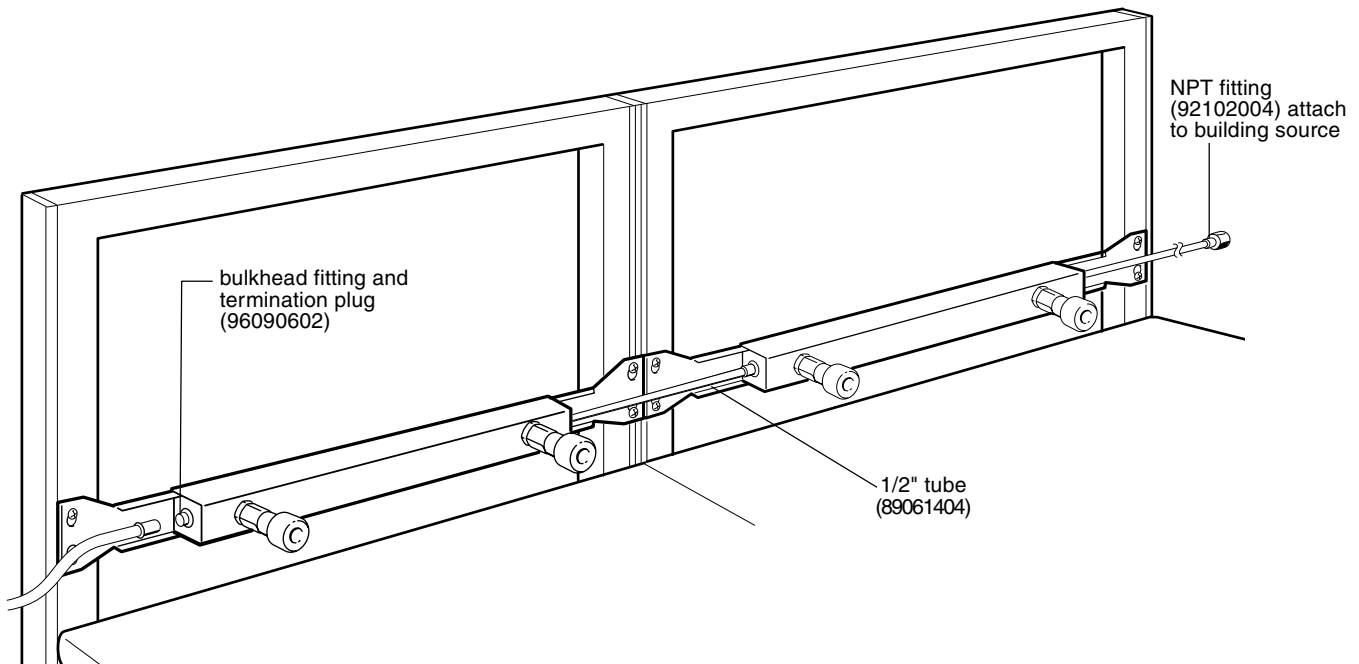

Figure 2
4. Using the Tube Cutter, cut 1/2" tube to the distance between adjacent bulkhead fittings plus 1". Push tube into bulkhead fittings. Repeat until Air Strips in a multiple run are connected. (Figure 2)
6. Insert 1/2" tube provided into bulkhead fitting at opposite end of run. Using the Tube Cutter, cut to appropriate length if required. Install NPT adapter on tube end and connect NPT adapter to shop air source. (Figure 2)